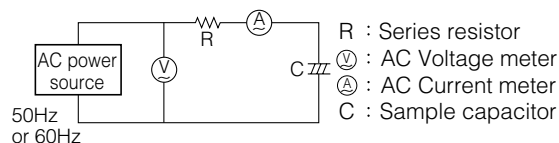

Fig. 2-5
- (1) In the circuit shown in Fig.2-5 a series resistance "R" is selected from Table 2-1 in accordance with the rated capacitance of the capacitor to be tested.